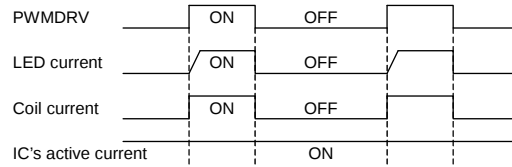

Fig.30 PWMDRV sequence
- 1) Current driver PWM control is controlled by providing PWM signal to PWMDRV, as it is shown Fig.30. The current set up with ISET is chosen as the H section of PWMDRV and the current is off as the L section. Therefore, the average LED current is increasing in proportion to duty cycle of PWMDRV signal. This method lets internal circuit and DC/DC to work, because it becomes to switch the driver, the current tolerance is a few when the PWM brightness is adjusted, so it makes it possible to brightness control until $5\mu\text{s}$ (MIN0.1% at 200Hz). And, don't use for the brightness control, because effect of ISET changeover is big under $1\mu\text{s}$ ON time and under $1\mu\text{s}$ OFF time. Typical PWM frequency is 100Hz~25kHz.